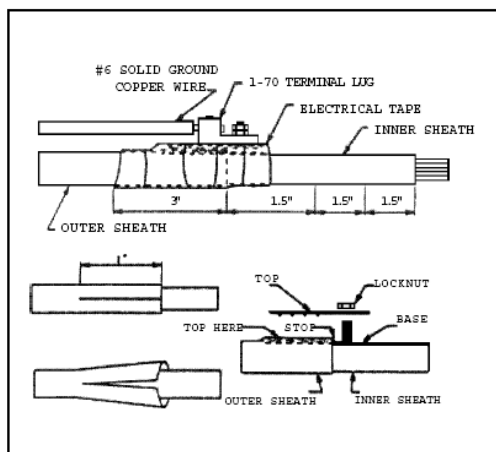

Figure 2.2
2.2.2 ACT Recommends that a 3M type bullet sheath connection bond clamp be used when connecting either the blue or black #6AWG stranded wire to the cable sheath (see fig. 2.2).
2.6.1 At Central Office locations the fiber cable normally enters the building through an underground cable vault. When the cable is being treated to filter A.C. voltage off the sheath, the ACT447 should be mounted in the cable vault. A ground bus is normally available in the vault, which the green wire will connect to. The cable sheath would be connected to the black wire via the use of a Bullet Bond Clamp and screw lug. (See fig. 2.2)